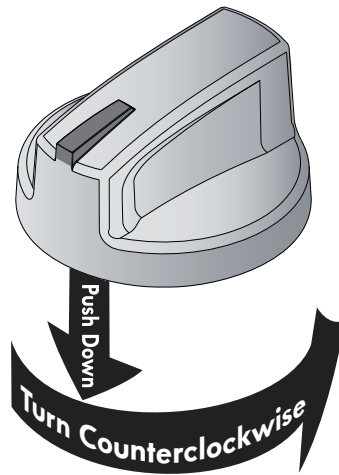

Figure 1
2. Push the surface control knob down and turn **counterclockwise** out of the OFF position (See Figures 1&2).